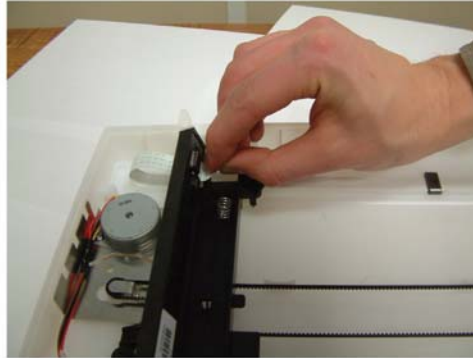

Figure 2
2. Disconnect the CIS ribbon cable and remove it from its two side slots, Figure 2.